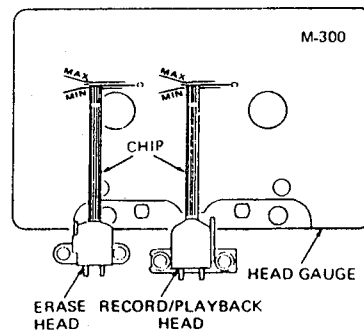

Fig.2
- Set the unit in the playback mode and place the adjustment chip on the head gauge as shown in the Fig. 2.